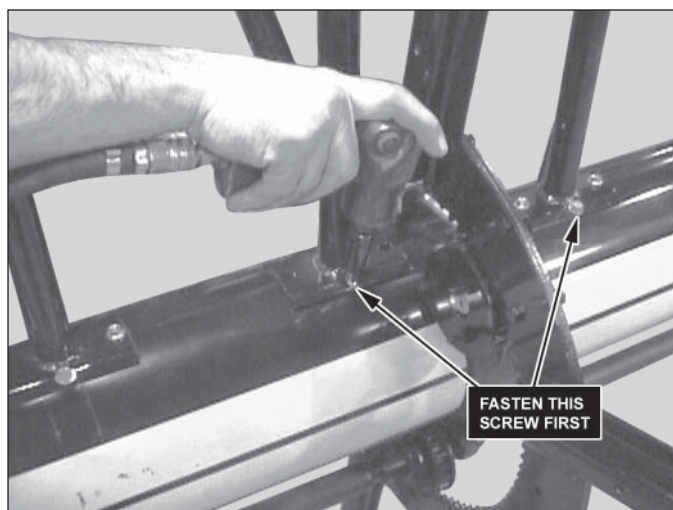

Figure 28, Fasten screws
- C. Drive three 11/32 X 7/8 self tapping screws through the air tube into the holes of the manifold (Figure 28). You may use an impact wrench for this step.